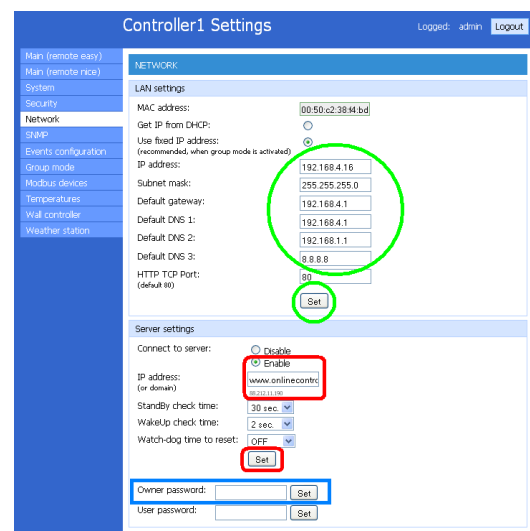

Figure 8
- To change the default IP address click on the **Network settings**. Network page will be loaded (Figure 8). Edit parameters and confirm them by clicking on the **Set** button (see green circles).
For control your A/C unit via the server, open SETUP/NETWORK page, switch radio button to **Enable** for connecting to the server and write the domain of the server **www.onlinecontroller.eu**. Confirm by clicking the **Set** button (see Figure 8, red rounded rectangles). It is also possible to change the **owner password** (default setting is **owner**, see blue rectangle).
- Owner password:** edited in SETUP/NETWORK of KKR01A; default value is **owner** (not admin, see Figure 8, blue rectangle)